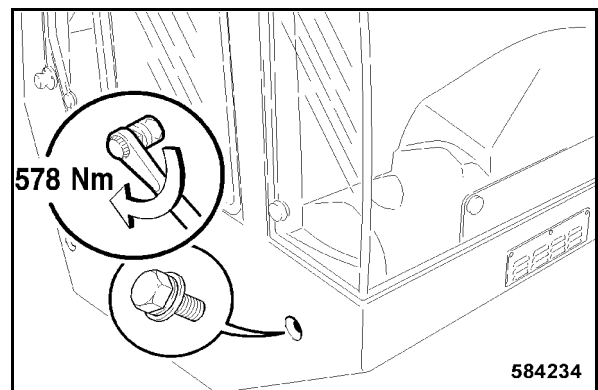

Fig. 215
- Tighten the front lateral fastening screw on the right hand side with 578 Nm (Fig. 215).